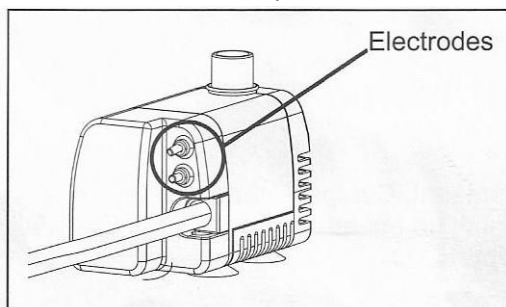

Fig.4
- Regularly clean the two electrodes to keep the pump in good working condition (see Fig. 4).